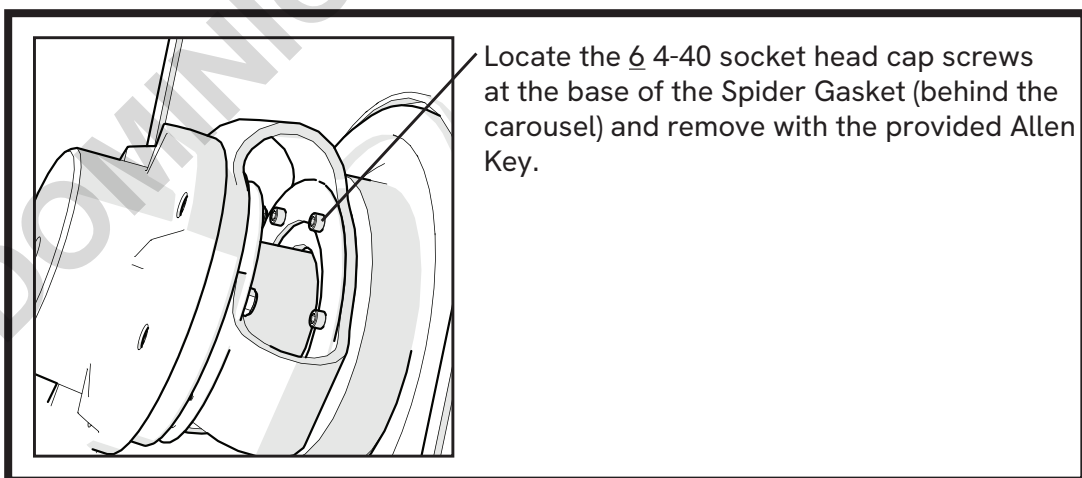

Figure 6
3. Remove (6) 4-40 socket head cap screws using 3/32" allen ball driver from spider Gasket retaining ring (Figure 6).